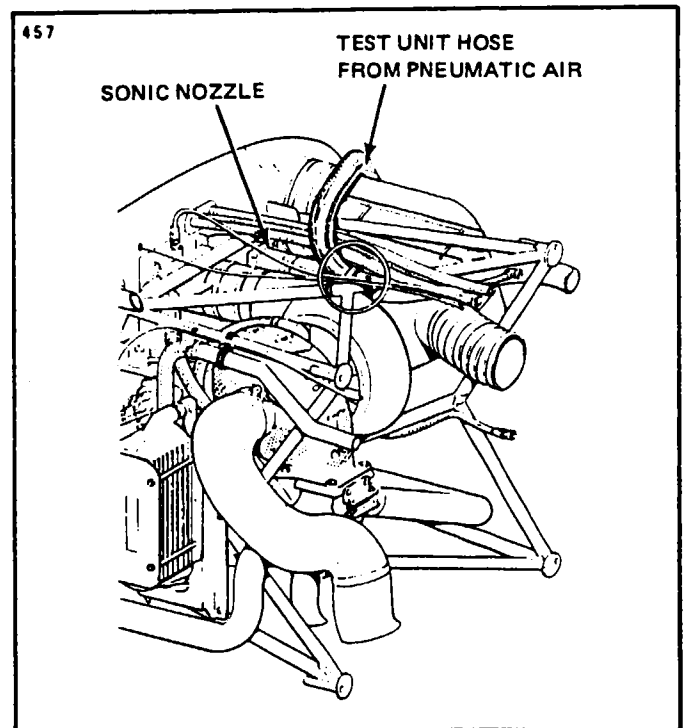

Figure 13-34d. Pneumatic Air Hookup (Preferred)
- (a) Preferred Method: Disconnect the pneumatic hose aft of the sonic nozzle and connect pneumatic air hose from the test unit as shown in Figure 13-34d.